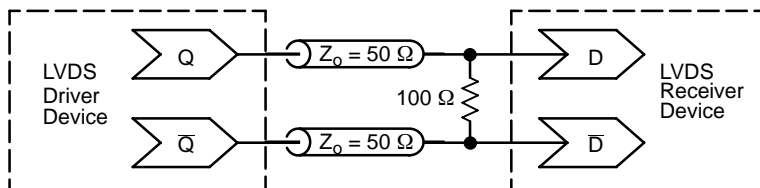

Figure 14. Typical LVDS Termination for Output Driver and Device Evaluation
- LVDS outputs require 100 Ω receiver termination resistor between differential pair. See Figure 14.